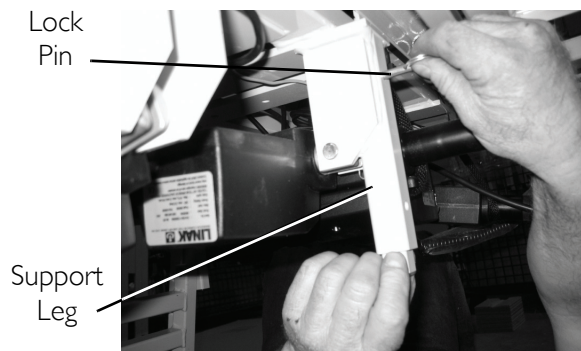

FIGURE 4.1 Assembling the Bed
NOTE: For this procedure, refer to FIGURE 4.1 on page 24.
1. Remove packing bands from the bed. See Detail “A” of FIGURE 4.1.
4. Grasp the back-rest of head-end section and rotate it until the section rests on the frame section already on floor. See Detail “B” of FIGURE 4.1.
5. Locate two clevis pins (one each side of bed) on backrest of head-end section which connect shipping brace to bed. See Detail “C” of FIGURE 4.1.
9. Remove the clevis pin securing the shipping bracket to foot-end section from each side of the foot-end section. See Detail “D” of FIGURE 4.1.
14. Slide head-end section into foot-end section until side frame holes line up. See Detail “E” of FIGURE 4.1.
15. From the outside of the bed, insert a clevis pin into each side frame hole. Secure clevis pins using rue rings on inside of frame. See Detail “F” of FIGURE 4.1.
16. Secure the actuators to the frame section using two small clevis pins and two hairpin clips. See Detail “G” of FIGURE 4.1.
19. Push support leg up and re-insert lock-pin. See Detail “H” of FIGURE 4.1.